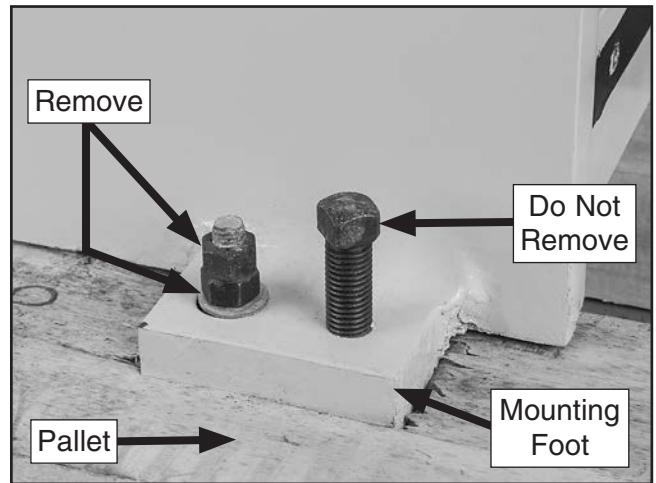

Figure 12. Remove hex nuts and flat washers securing machine to pallet.
2. Remove (2) hex nuts and (1) flat washer on each mounting foot (see **Figure 12**).